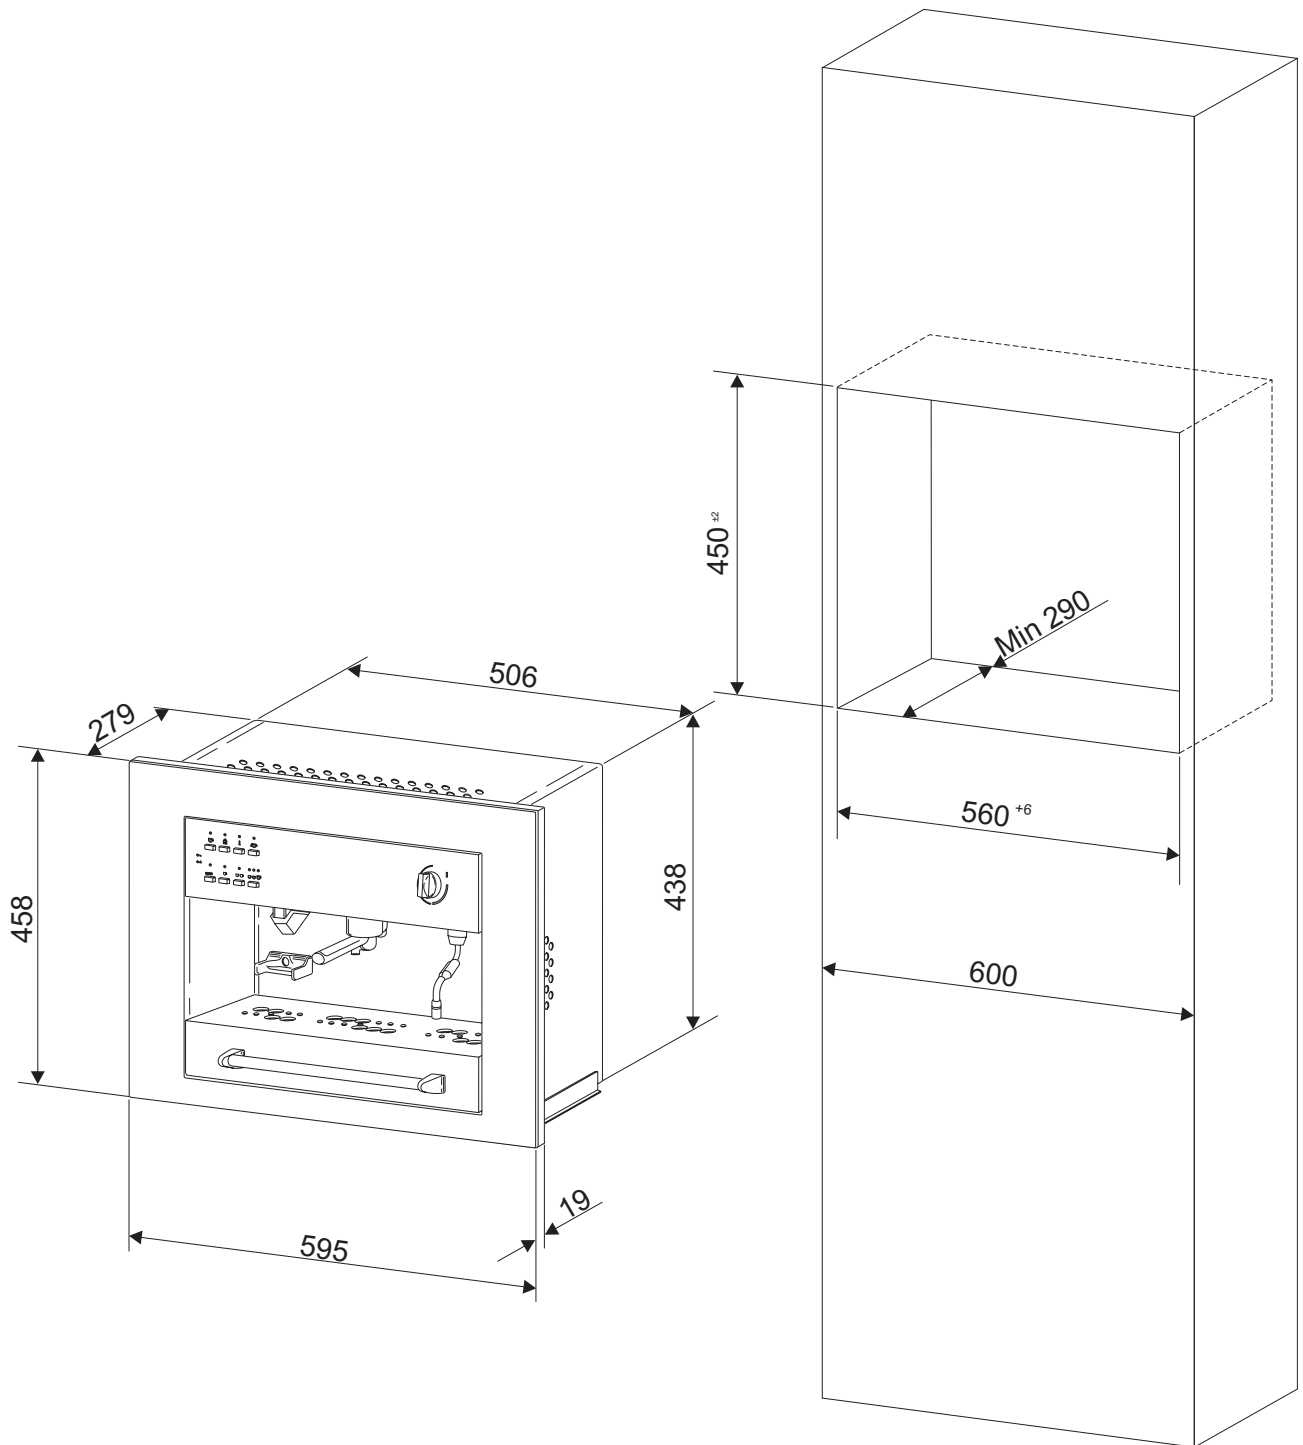

Fig. 2A
1. Check that the opening dimensions can accommodate the machine (Fig. 2A/B).